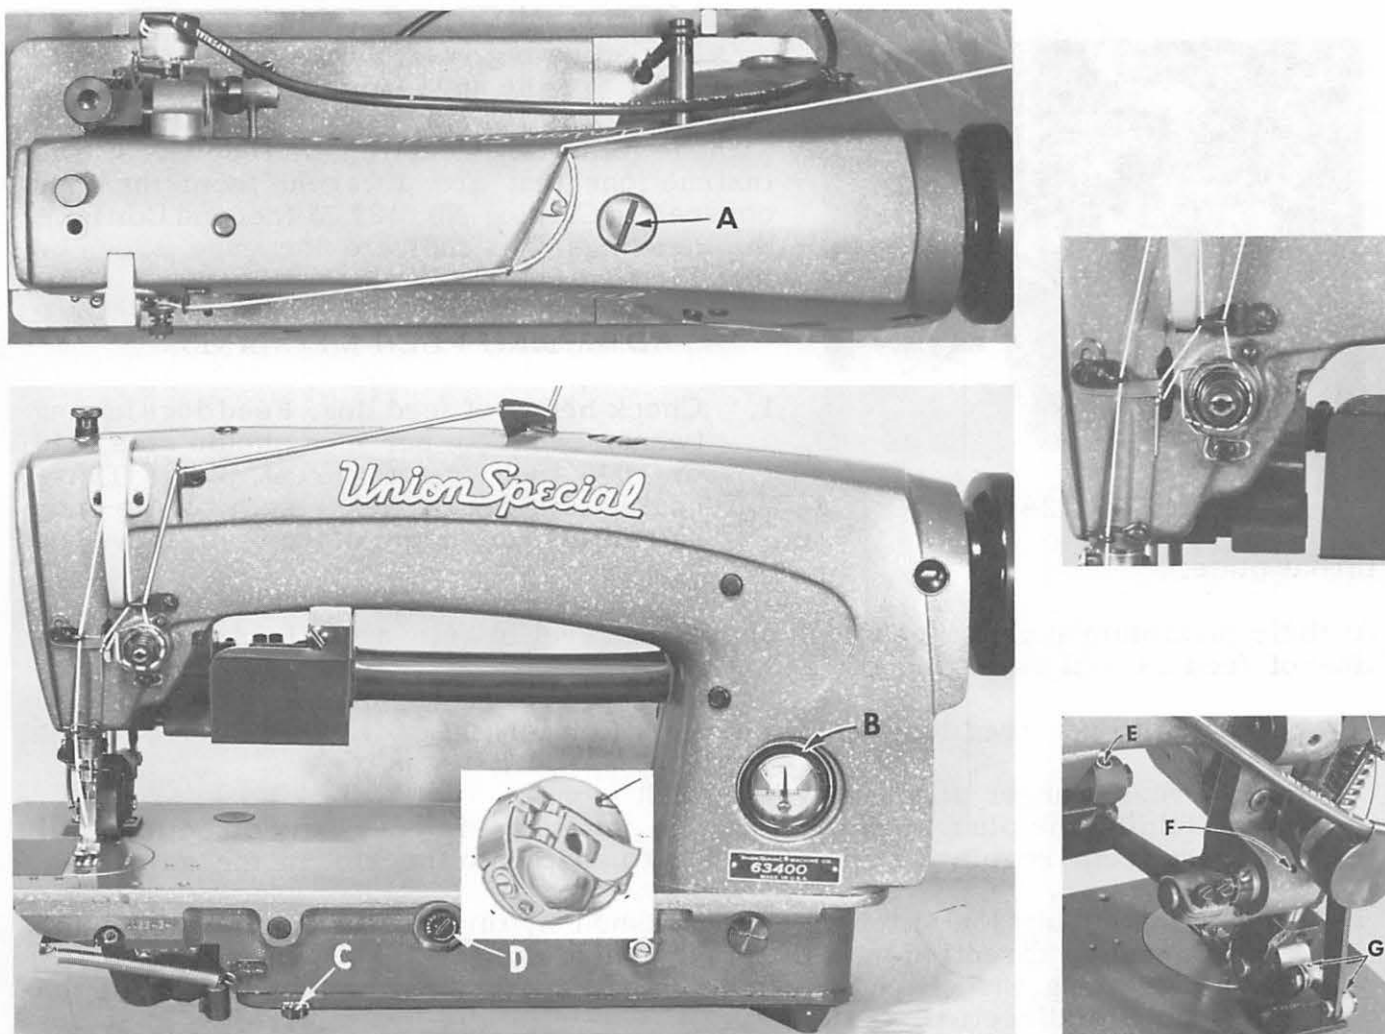

Fig. 2A
Thread machine as indicated in Fig. 2A. Threading at check spring has been enlarged for clarity. Needle is threaded from left to right.
Fill main reservoir at plug screw (A, Fig. 2A) and check oil level at gauge (B); oil is at maximum level when needle is in yellow band marked "FULL". Oil should be added when needle is in yellow band marked "LOW". Use a stainless water-white straight mineral oil of a Saybolt viscosity of 90 to 125 seconds at 100° Fahrenheit in the main reservoir. This is equivalent to Union Special specification No. 175.